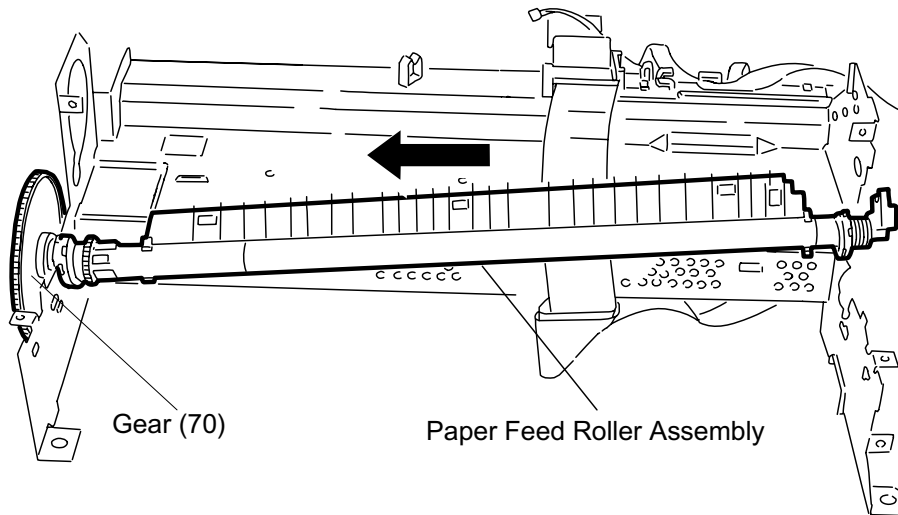

Figure 3-67. Paper Feed Roller Assembly Removal
3. Release 3 hooks securing the rear paper guide to the bottom frame. (See Figure 3-67.)